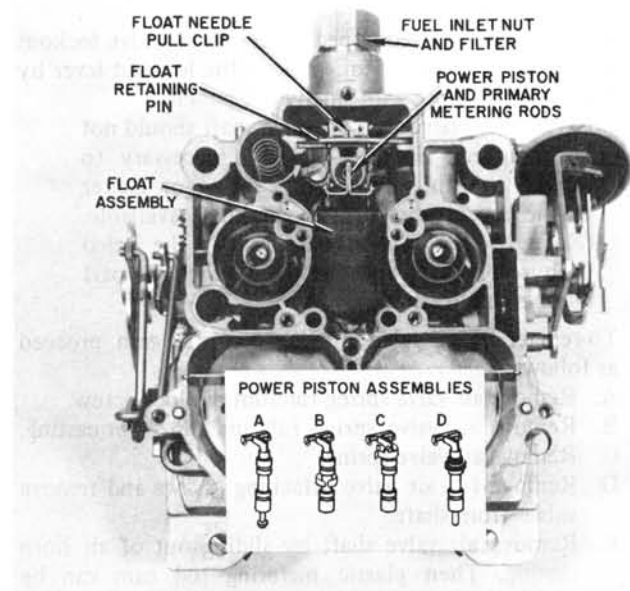

FIGURE 30
5. Remove power piston and primary metering rods as an assembly. There are four different type power piston retainers used. (See Figure 30.)